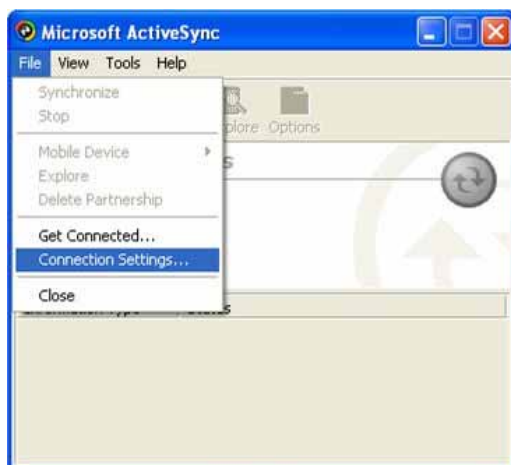

Figure 5.16
1. Navigate to **File** → **Connection Settings....** from the menu in ActiveSync. See Figure 5.16.